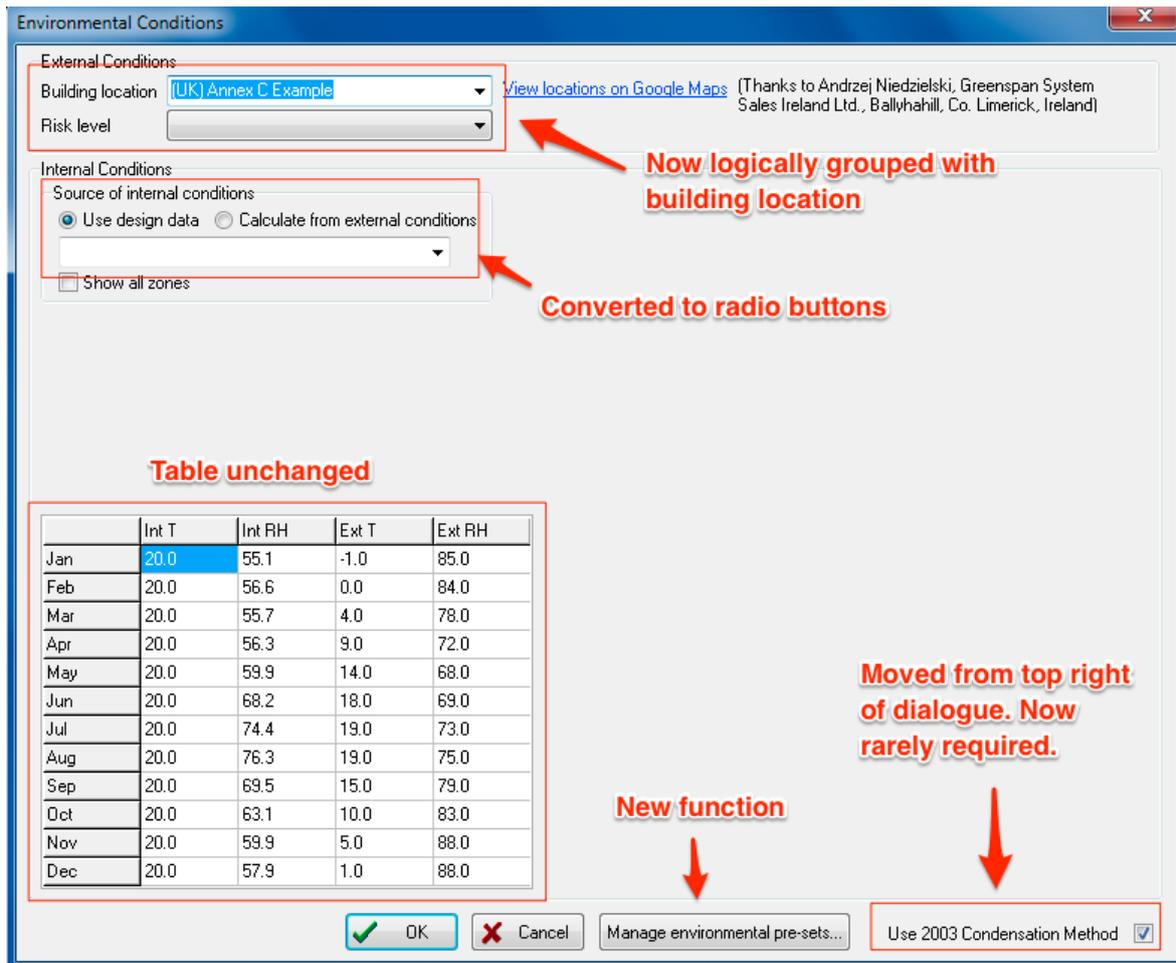

Figure 3: The revised layout of the **Environmental Conditions** dialogue
- *Internal* pre-sets will be shown in the list when the **Source of internal conditions** is set to *Use design data* (see Figure 3).
The layout of the **Environmental Conditions** dialogue has been revised in order to group controls and options more logically (see Figure 3). The main changes are: